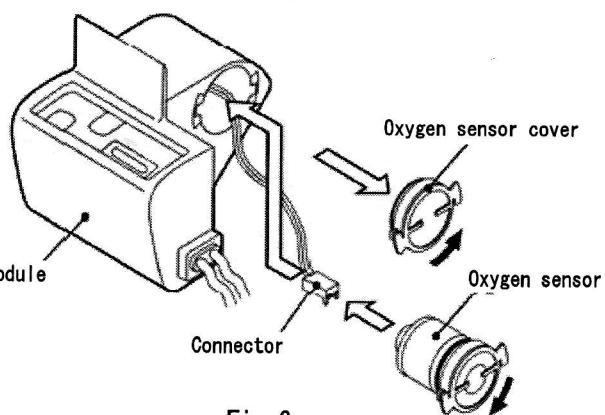

Fig. 3
- (1) Fix the oxygen sensor by screwing it into the oxygen sensor holder supplied with the oxygen sensor.
2. Installing the oxygen sensor to the module <Fig.3>